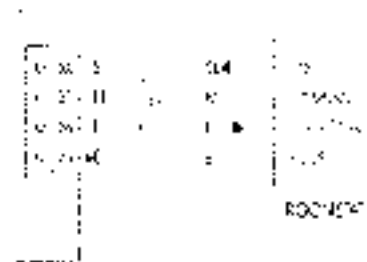

Fig 3.3
2. Connect cables from the room thermostat as shown in figure 3.3.